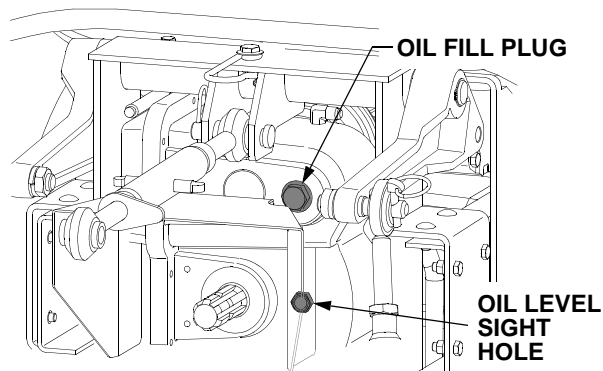
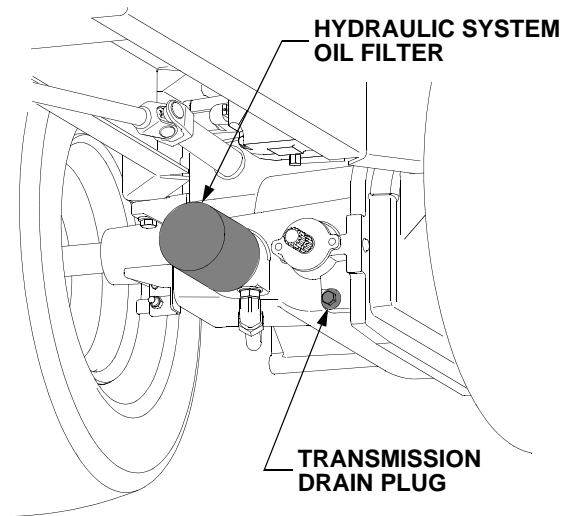

Figure 41
Figure 43
The oil level sight glass is located in the rear of the transmission housing, just to the right of the rear PTO shaft. Refer to Figure 41.
- Locate the oil fill plug on the upper right of the rear of the transmission housing. See Figure 41.
- Position a suitable container below the hydraulic system filter. Refer to Figure 43
- Clean the area around the transmission fill plug to prevent debris from entering the transmission (Refer to Figure 41) and remove the plug.
- Clean the area around the transmission drain plug and the oil fill plug to prevent debris from entering the transmission. Refer to Figure 41 and Figure 43.
- Remove the oil fill plug to help vent the transmission, then remove the drain plug and allow the transmission oil to drain into the container(s). Reinstall the drain plug after draining the oil. Refer to Figure 41 and Figure 43.